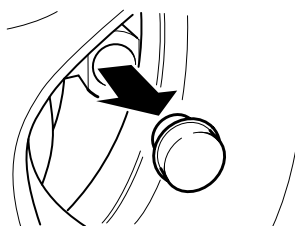

Fig. 2
- Unscrew the plastic cap from the receiver and store in the tool kit box. (When Al-Ko Secure is not in use, always screw the plastic cap in place). (Fig. 2)